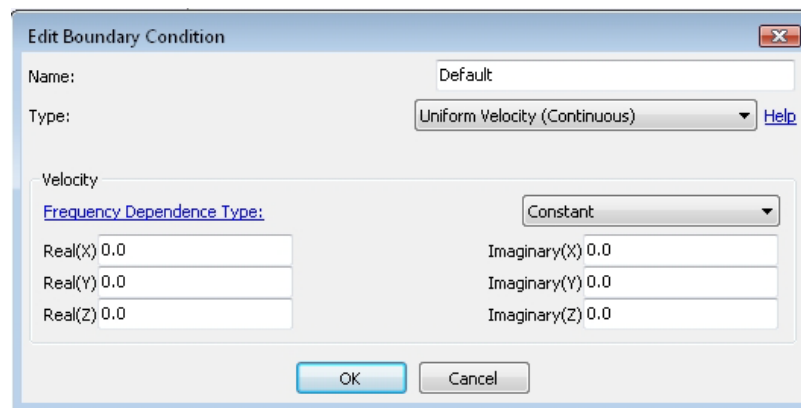

Figure A.40 Edit boundary conditions window.
- Right-click on **Default** and select: **Edit...** to make changes to the default boundary conditions applied to all the boundary elements. The window in Figure A.40 will appear.